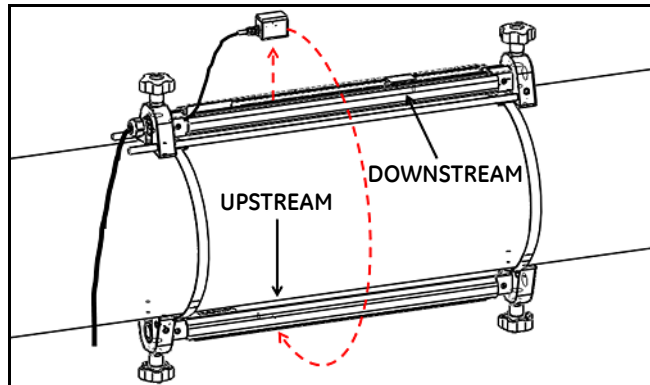

Figure 20: Relocate the Upstream Transducer
- b. Remove the upstream transducer from the first fixture (see *Figure 20* below). Disconnect the transducer cable and route the cable into the second fixture.